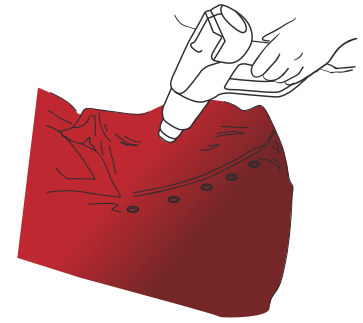

Figure 23
- › Then heat each rivet again to 80 °C - 90 °C (176 °F - 194 °F). (FIG. 23)